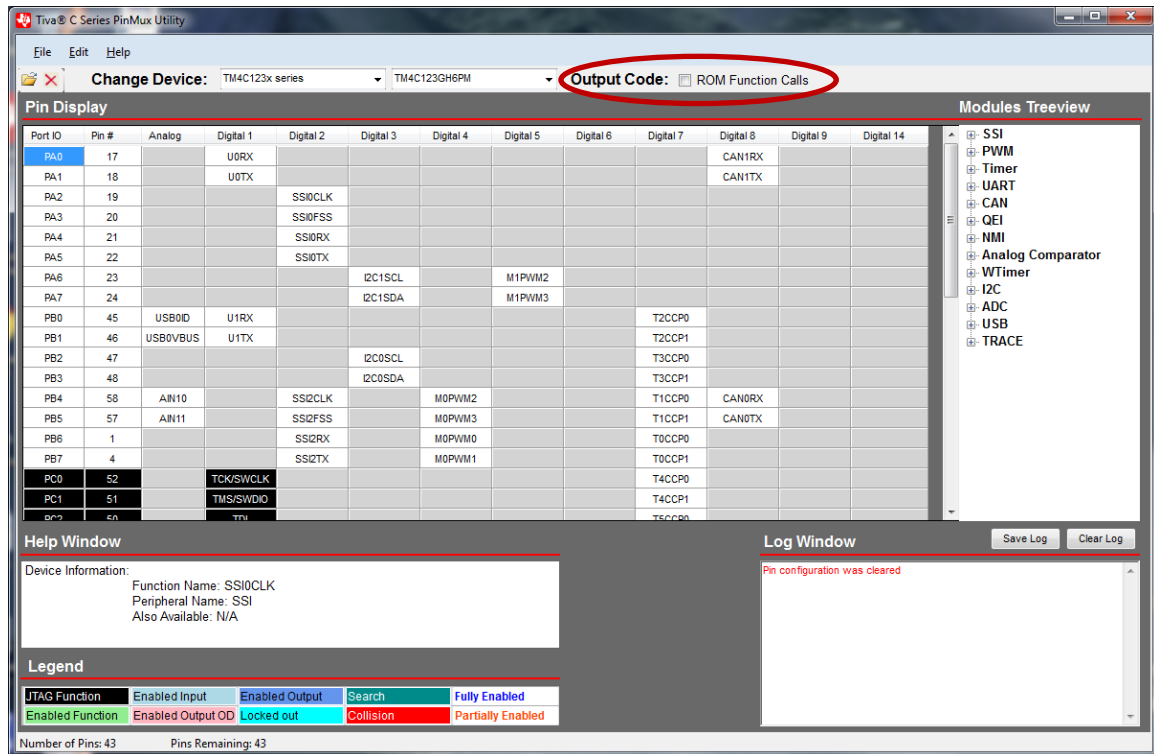

Figure 3
4. You will then see the user interface that allows you to graphically configure your device peripherals in an intuitive and rapid manner (see Figure 3). There is an option on the top right of the user interface **Output Code:** ☒ ROM Function Calls, which is checked in default. This option allows the user to choose whether to generate code using TivaWare API calls stored in the internal ROM